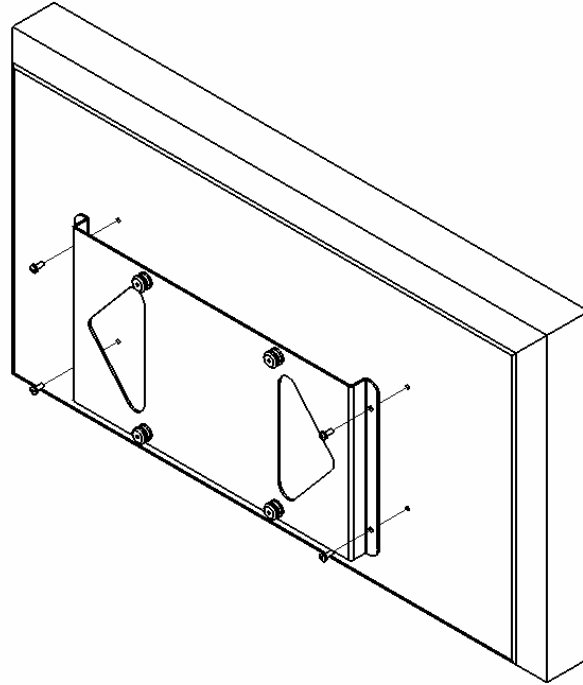

Figure 3
2. Attach mounting bracket to the display using the M5 screws (see Figure 3).